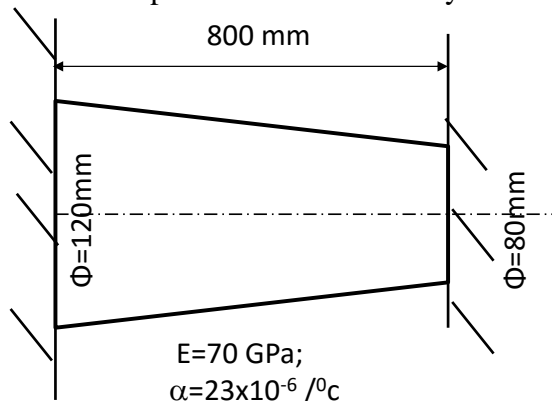

Fig. 2b
- b) For the tapered bar shown in Fig. 2b, determine the nodal displacements, strains and stresses using 2 element and 4 element approximation, and hence comment on the stress values. The temperature rise in the body is 80°C . 15